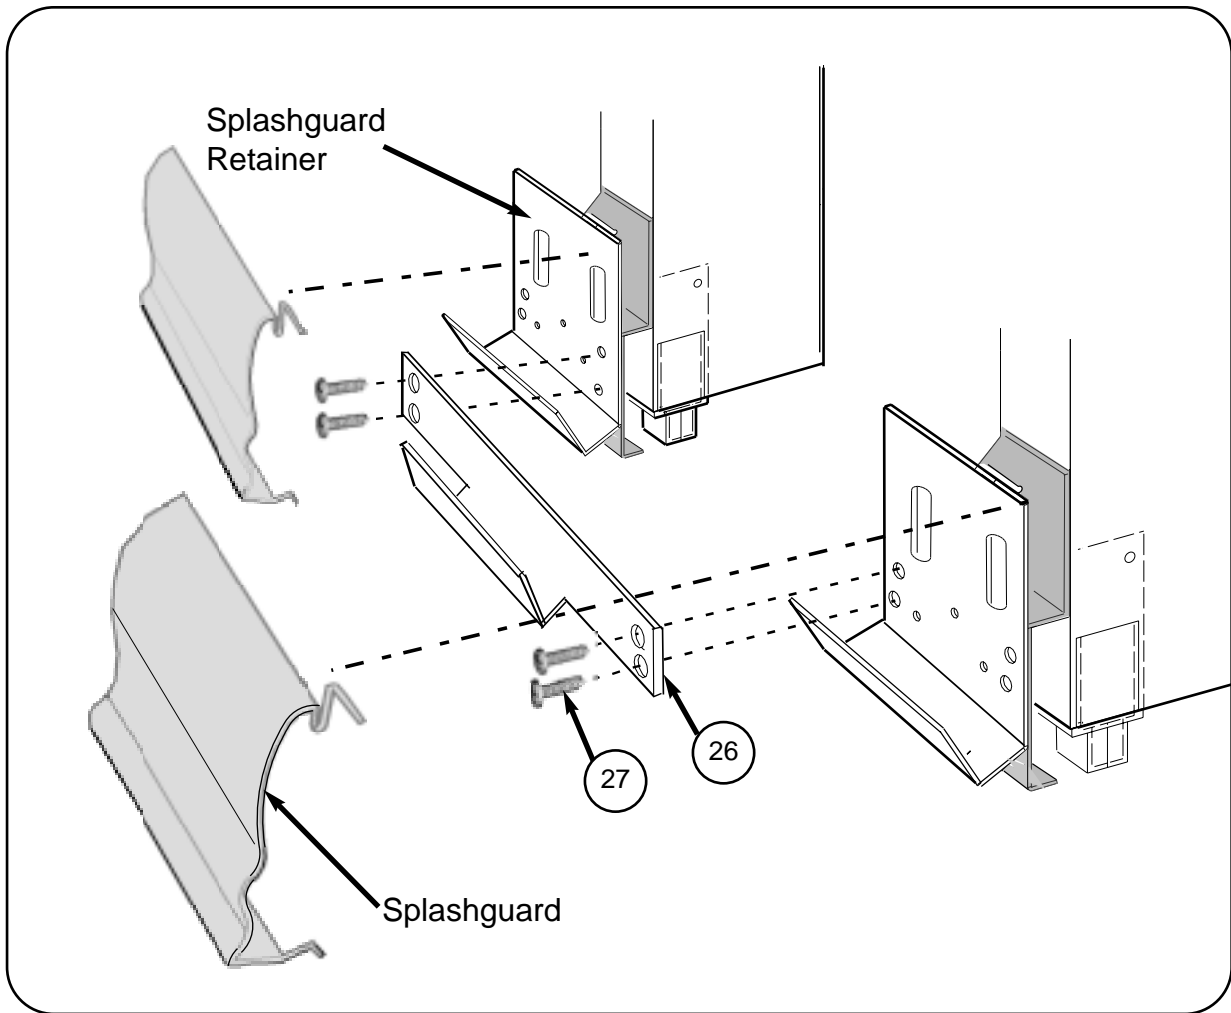

Figure 15. Installing the Splashguard Joining Bracket and Splashguard
- 22** Install the **Splashguard Joint Support (Item – 26)** to the splashguard retainer using **Screws (Item – 27)**. See **Figure 15**.